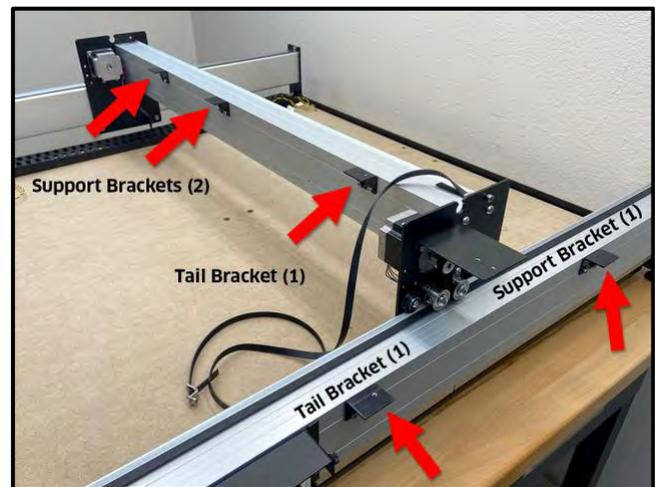

Figure 21
1. Install two (2) middle support brackets (no PEM nut) and one (1) tail bracket (with PEM nut) to the back side of the X-rail. See **Fig. 21** (image from rear).
- b. Use a 3mm hex key and two (2) M4×6mm SCHS to secure each bracket.
2. Install one (1) middle support bracket (no PEM nut) and one (1) tail bracket (with PEM nut) to the outside of the Y1-rail. See **Fig. 21** (image from rear).